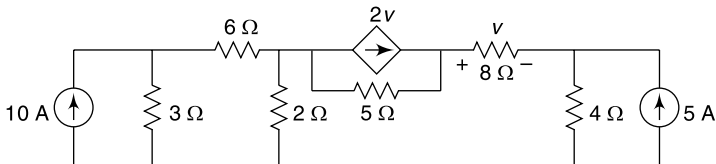

Fig. 14.35
14.62 By using source transformation technique find the current through the 8 Ω resistor in Fig. 14.35.